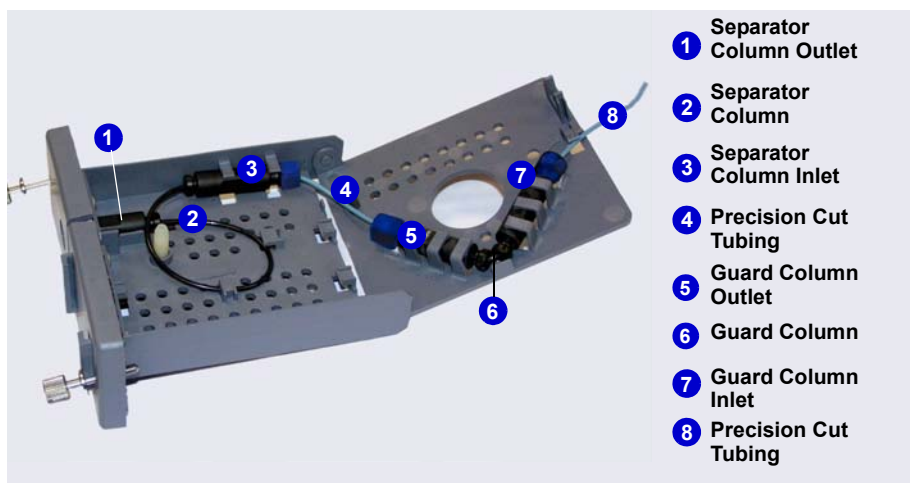
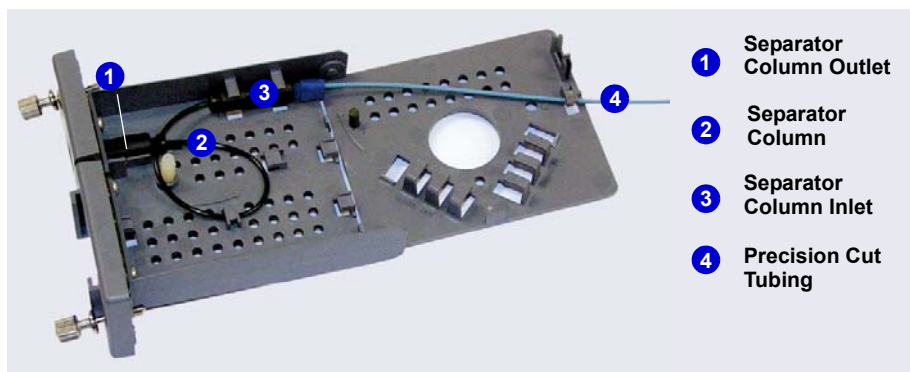

Figure 9-43. Separator and Guard Columns Installed in Column Cartridge
Figure 9-44. Separator Column Only Installed in Column Cartridge
5. Lift the lid of the column cartridge to open it. Figure 9-43 shows the column cartridge when a capillary guard column and a capillary separator column are installed.
Figure 9-44 shows the column cartridge when only a capillary separator column is installed.
12. Coil the separator column tubing inside the cartridge as shown in Figure 9-43 or Figure 9-44. Secure the column and the inlet fitting in the clips on the column cartridge.